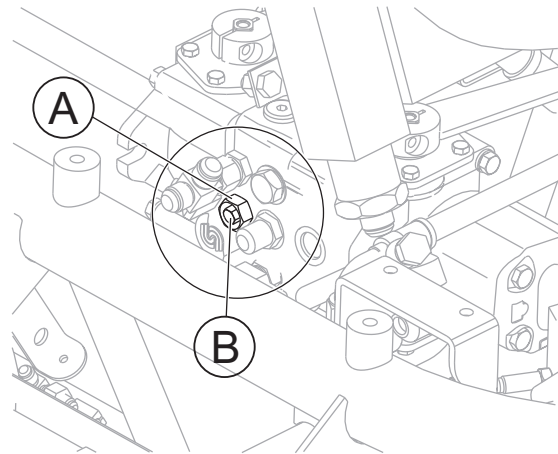

Figure 34. Charge Pressure Adjustment
5. Loosen 1-1/16" jam nut on charge relief valve (Item A, Figure 34).
6. Using a 1/2" socket, adjust the small hex nut within the larger hex jam nut (Item B, Figure 34).